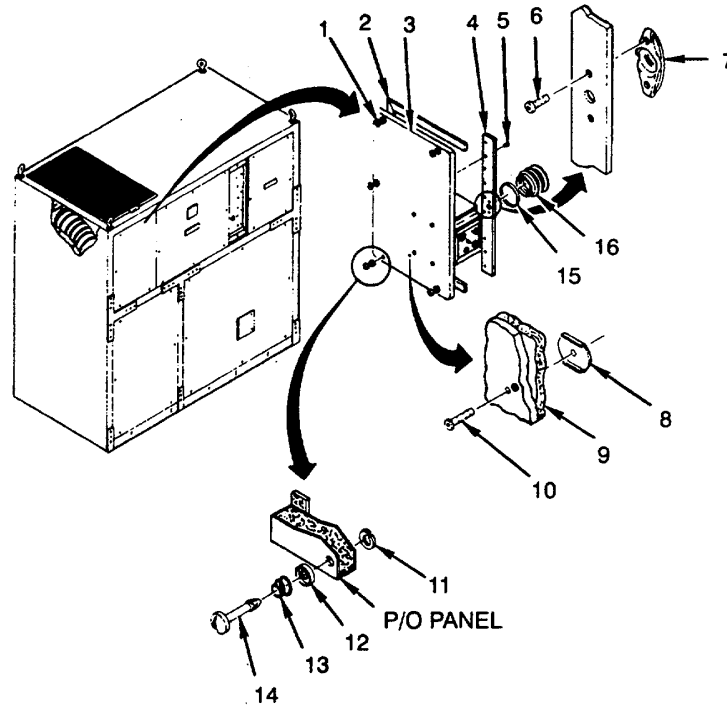

Figure 4-27. Left Front Evaporator Panel
1. Loosen five captive fasteners (1) (see Figure 4-27).
2. Loosen clamp (15) and remove hose (16).
3. Remove panel (3).